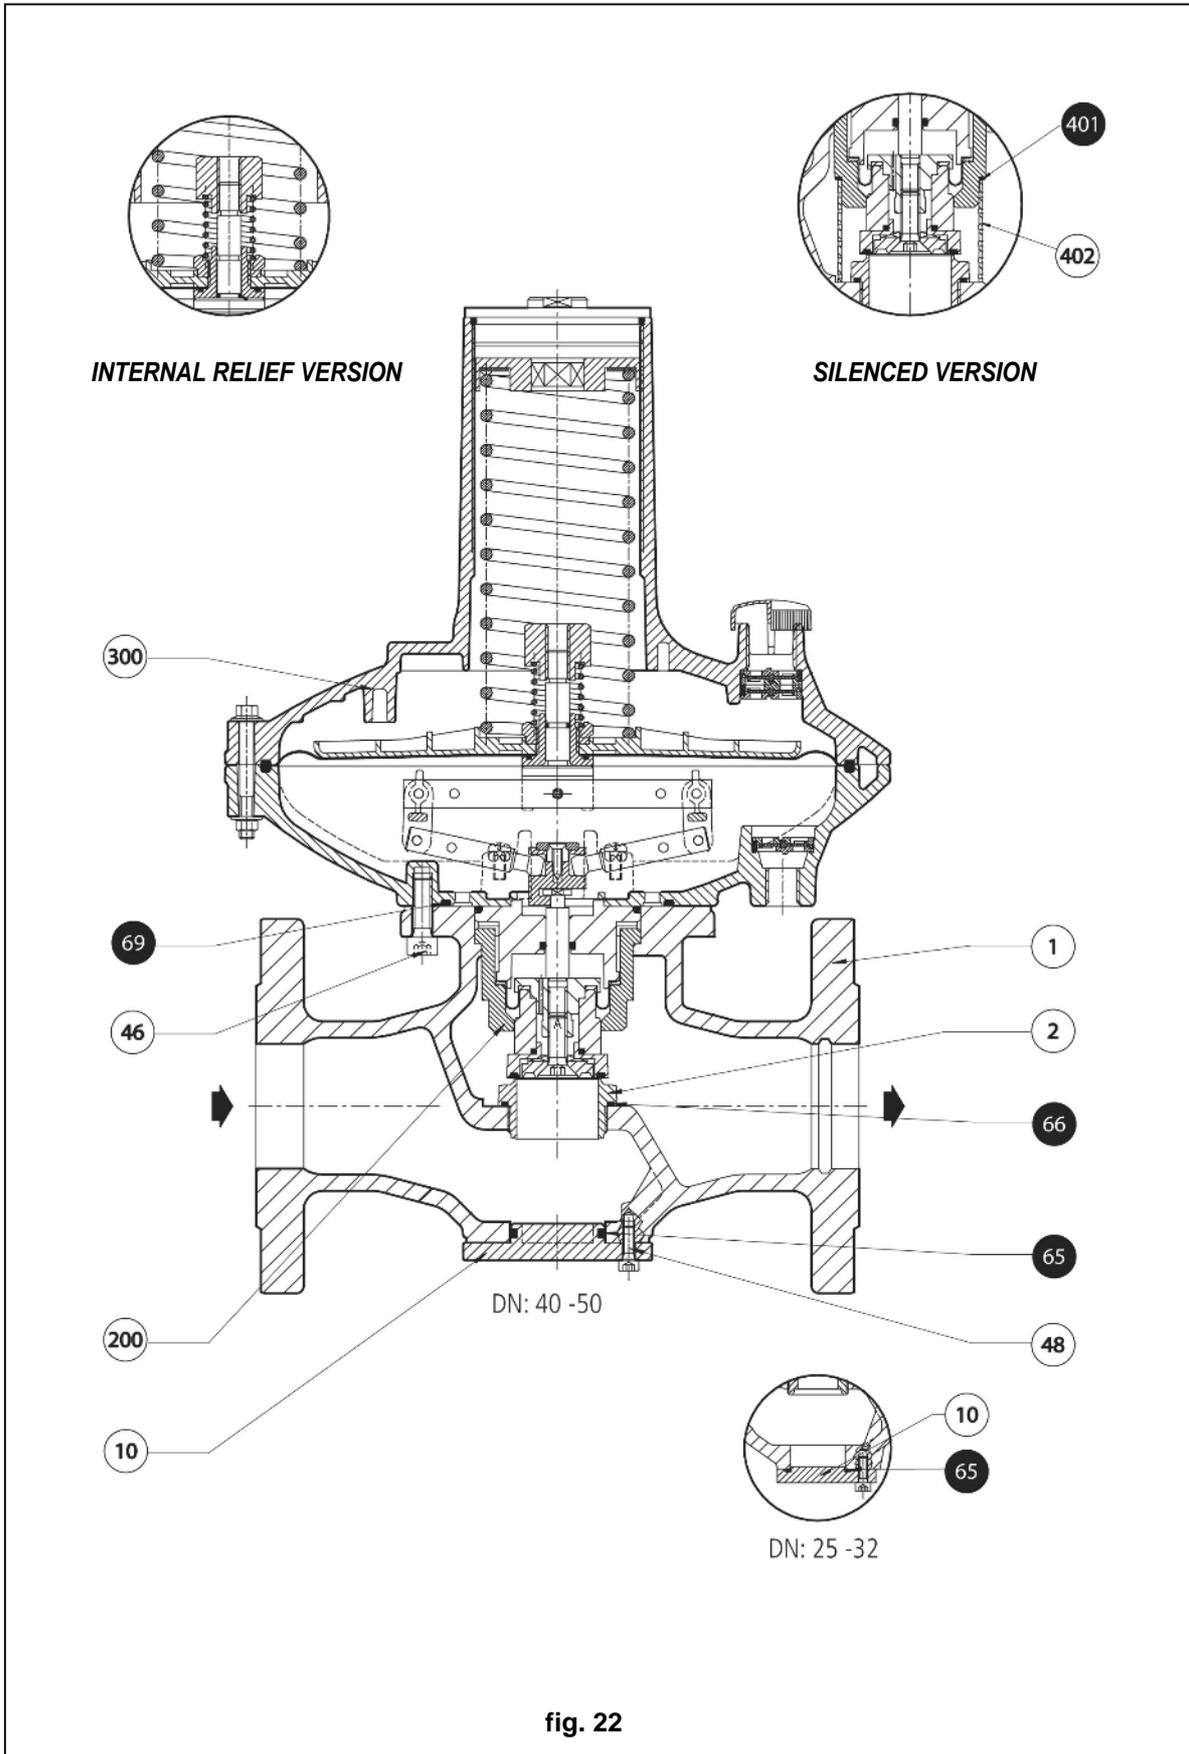

fig. 22
6.1 Tab. 8 DIVAL 600 REGOLATOR (fig. 22, 23, 24, 25 and 26)